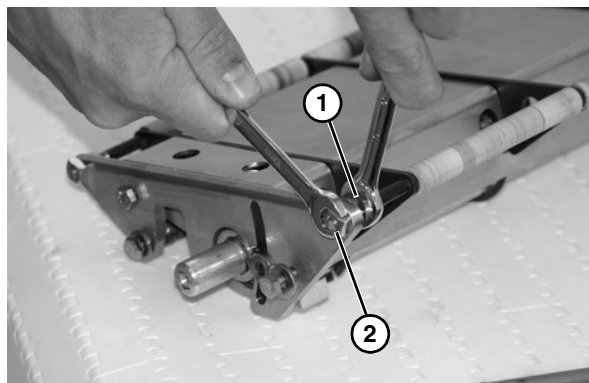

Figure 35
9. While holding onto inner nut (**Figure 35, item 1**), install and tighten outer nut (**Figure 35, item 2**).